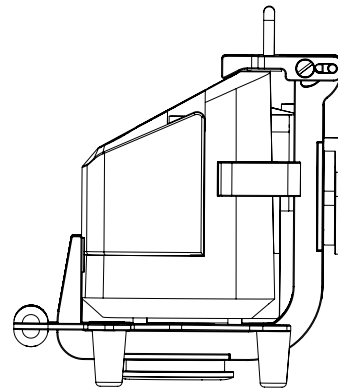

Figure 7: Closing and locking the mounting system
3. Flip the top of the mounting system over the medical device and press it until it is locked and secured (Figure 7).